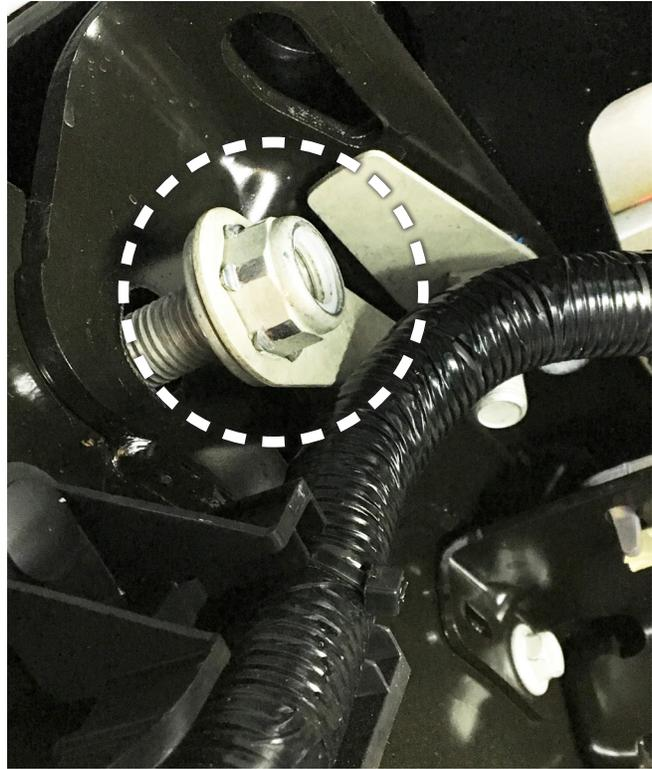

Fig. 24
1. To install the driver's (left) side upper brace (G), if equipped, remove the rearward fifth wheel bracket hardware, set aside for later use (Fig. 24).